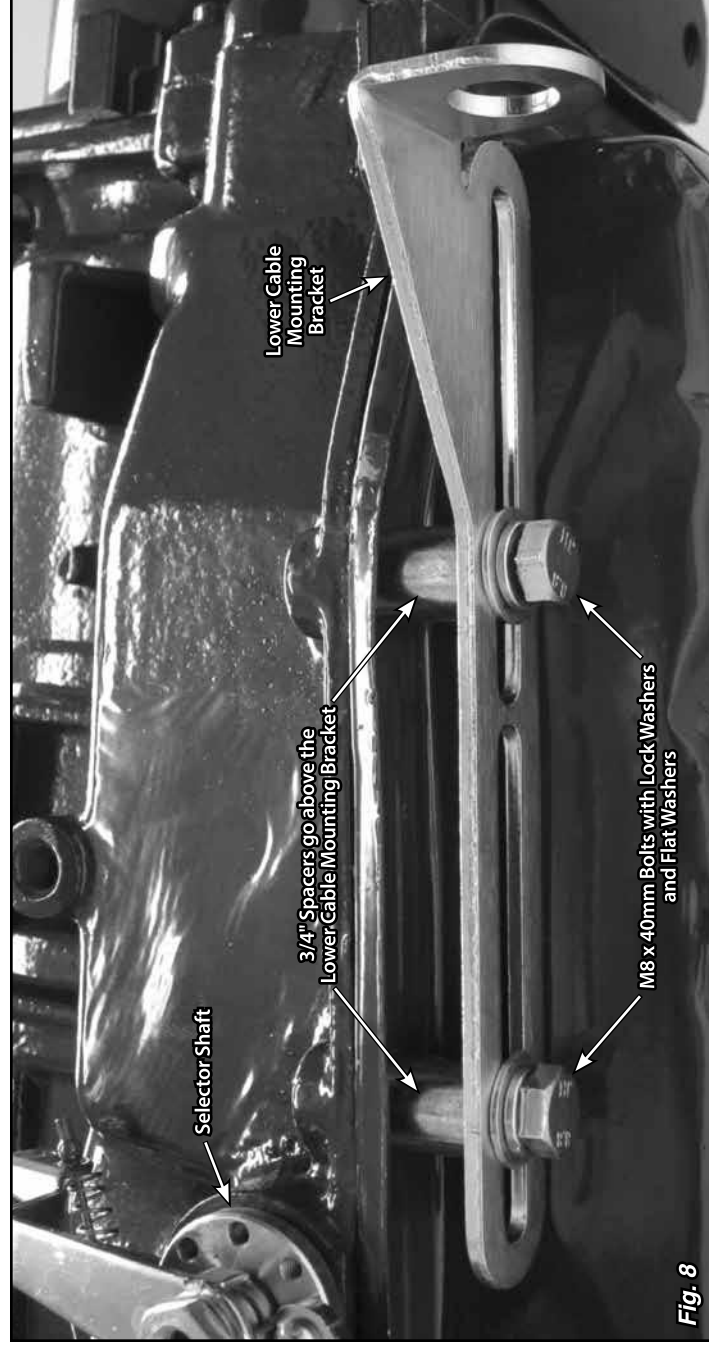

Fig. 8
Step 11: Remove the two pan bolts directly behind the selector shaft. Install the lower cable mounting bracket on the driver side of the transmission pan, using the provided M8 x 40mm bolts, lock washers, flat washers, and 3/4" spacers. The spacers go in between the bracket and the transmission pan. Do not tighten the bolts yet. **Fig. 8**